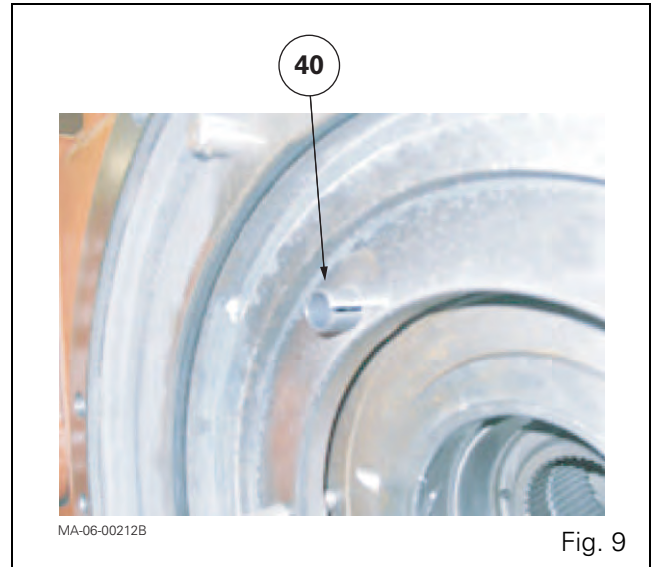

Fig. 9
20. Check that the locating pin (40) is present on the centre housing (Fig. 9).